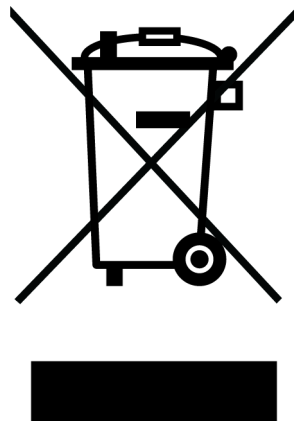

Figure 13 Crossed out 'wheelie bin' symbol
- marked correspondingly with the crossed out 'wheelie bin' logo (see Figure 13)